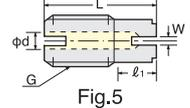

Fig.5
- None, -J : Symbol of adjust screw used with J type nut (Fig.5)